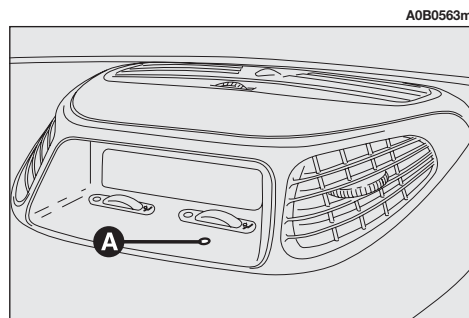

fig. 9
Engagement of the alarm is preceded by a self-diagnosis phase characterised by a change in the frequency at which the deterrent led (**A-fig. 9**) on the dashboard flashes. If an anomaly is detected the system gives off a further beep.
When the system has been turned on, the led (**A-fig. 9**) on the dashboard will flash to indicate that the system is in the surveillance mode. The led will flash continuously while the system is under surveillance.
**WARNING** If the led (**A-fig. 9**) in the car stays on when the system has been deactivated, (maximum of 2 minutes or until the ignition key is moved to **MAR**) the following should be borne in mind: